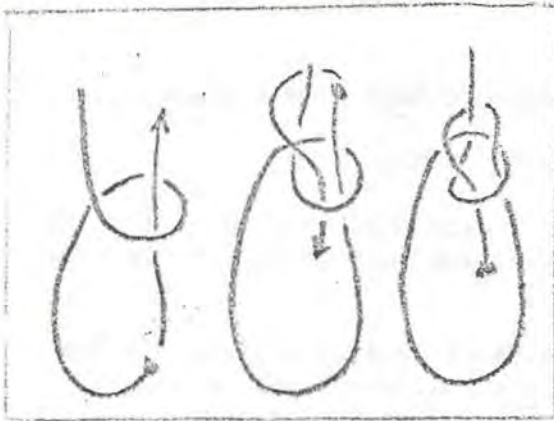

FIG 27. BOWLINE
b. Anchor Knots: Anchor knots are used to tie the end of the rope to any object. An anchor knot is easy to tie and untie. Care must be used when selecting an anchor knot that will not work itself loose when alternate tension and slack are put on the rope. (Figures 27 and 28). The round turn with two half-hitches and the clove hitch may work loose under these conditions, whereas the bowline will not.